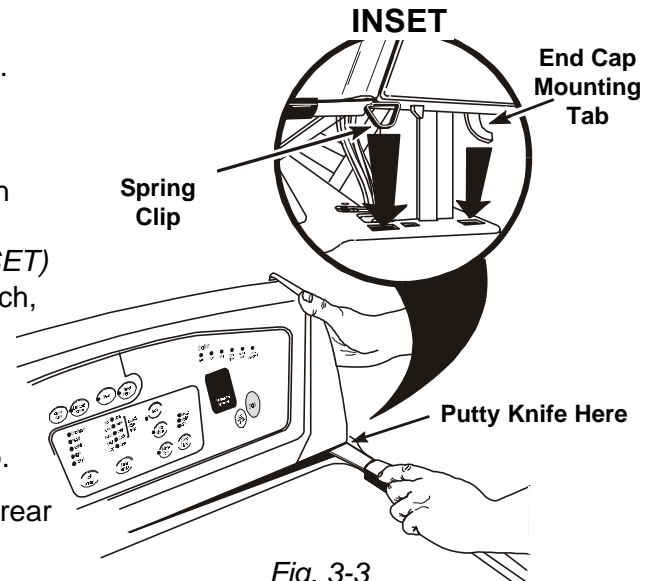

Fig. 3-3
2. Slide the blade of a putty knife between the bottom of the console and the washer top at each front corner (*Arrow in Fig. 3-3*) and push the spring clip back far enough to release it from the slot in the washer top. (*Fig. 3-3, INSET*) Then lift the console up approximately one inch, tip the console back and lift it to release the mounting tab at the rear of the end cap from the slot in the washer top.
4. Remove the six (6) 1/4" screws securing the rear console panel and remove panel.